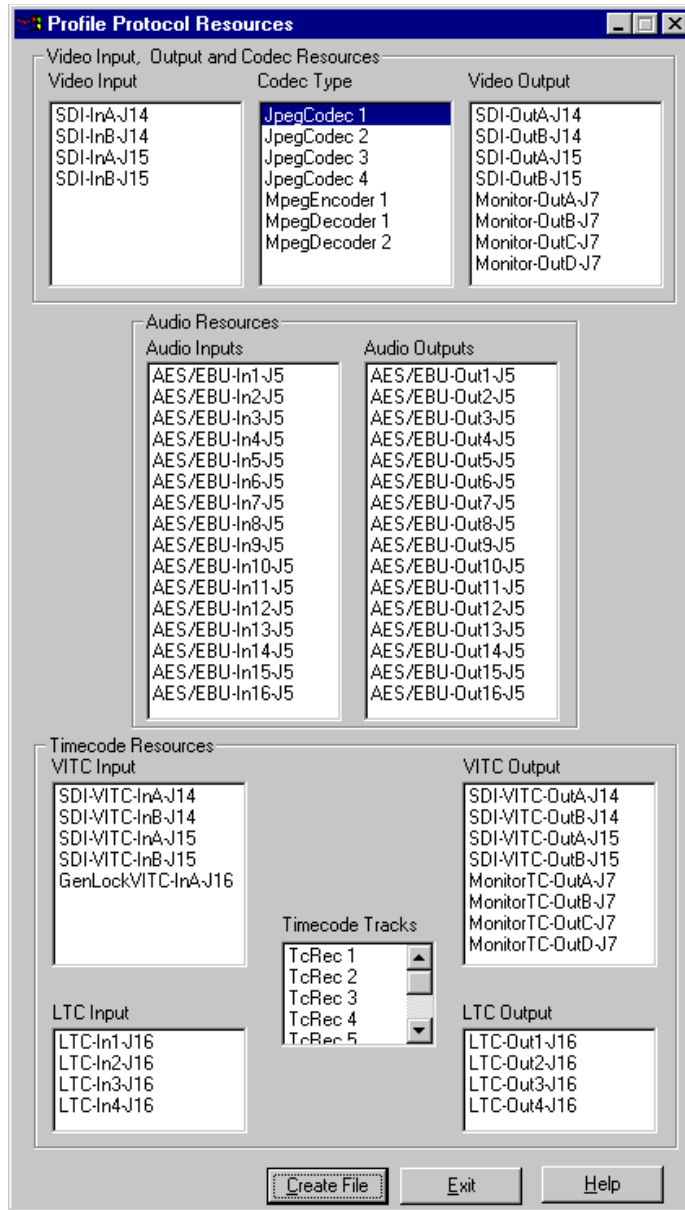

Figure 110. The main Profile Protocol Resources window
1. Double-click the Profile Protocol Resources icon to start the utility. A window similar to the one shown in Figure 110 appears.